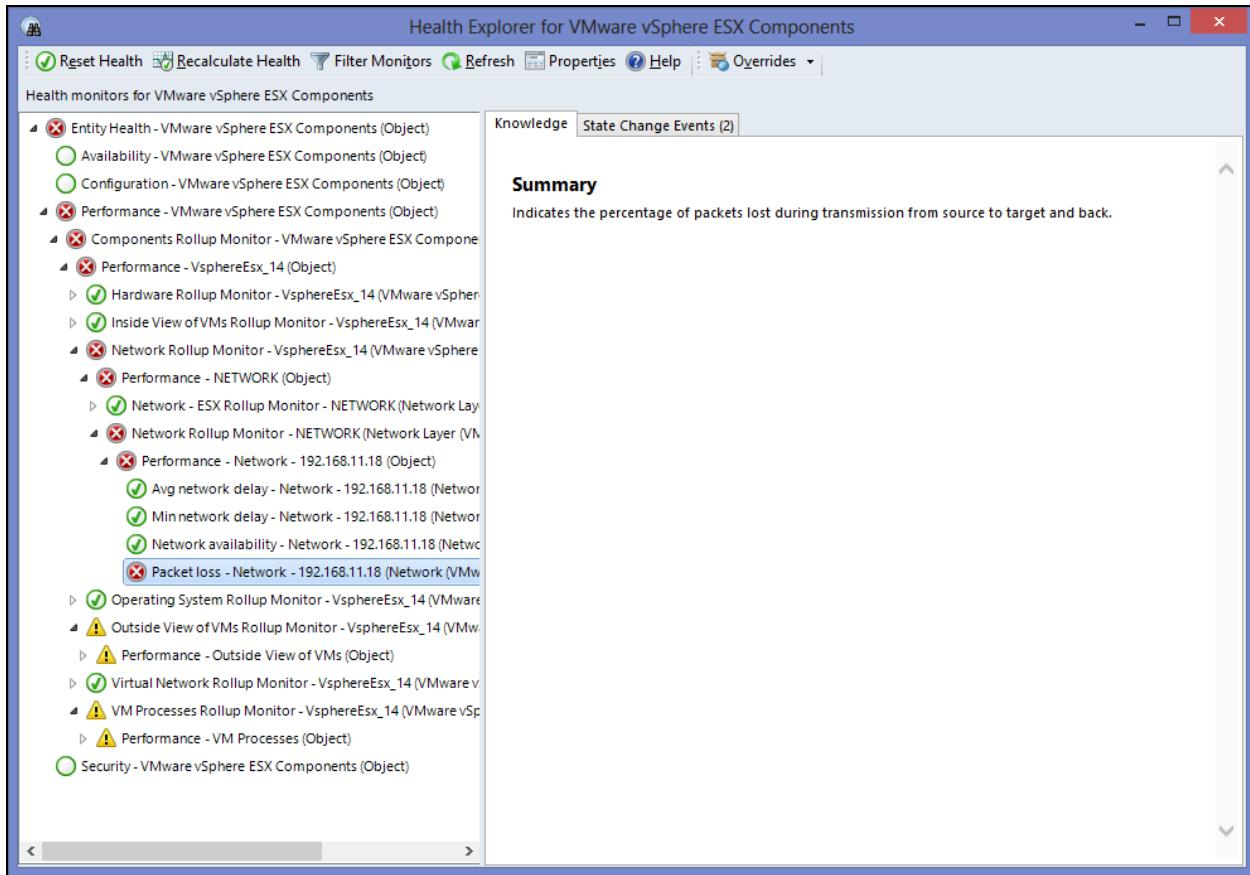

Figure 4.13: Health Explorer revealing the accurate reason for the Network problem with the VMware vSphere ESX server
4. To zero-in on the precise issue, right-click on the **Network** test representation in the topology and pick the **Health Explorer** option. Figure 4.13 will then appear pointing you to the exact measure that deviated from the threshold and caused the Critical problem. As can be inferred from Figure 4.13, a high packet loss on the network link to the VMware vSphere ESX server is what led to the Critical state of the vSphere server.